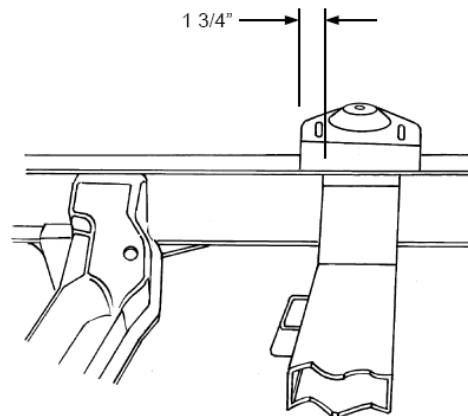

Figure 5- Install Spring Towers
7. Next are the spring towers. They sit on top of the frame rails. They are pre-fitted for your frame and are located as shown in **Figure 5**. They are 1-3/4" forward from the front of the crossmember, measuring as shown in **Figure 5**. The high side of the spring tower goes towards the front end of the frame. Clamp in place, double check your dimensions, and weld all around, including the gusset flanges on the sides of the rails. For added strength, you can also weld the inside of the gusset flanges.